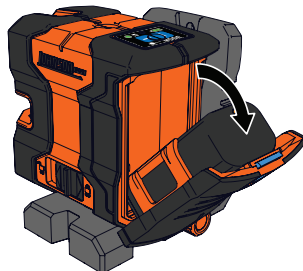

Figure 4
2. Push down on the battery door lock tab to unlock the battery door. Allow the battery compartment door to fall open. *(Figure 4)*